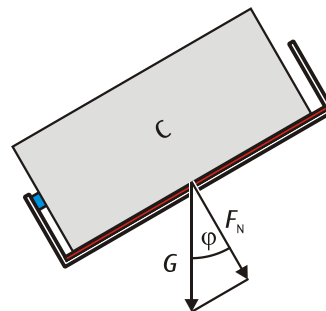

Fig. 3: Measurements conducted with friction body C when the friction track is inclined
- Place friction body C onto the sliding friction surface so that the castors on the narrow side face downwards towards the track wall (see Fig. 3).